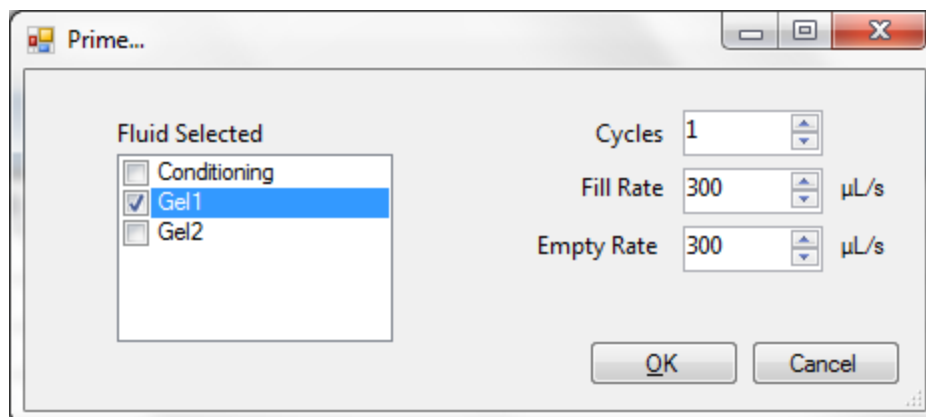

Figure 2. **Prime** menu
- When switching applications (e.g., between kits), prime the appropriate gel fluid line after loading fresh gel/dye mixture. From the Main Menu of the *Fragment Analyzer*TM instrument control software, select **Utilities – Prime...** Select the desired fluid line(s) (Conditioning, Gel 1, or Gel 2) and press **OK** to purge the fluid line with fresh gel (Figure 2).